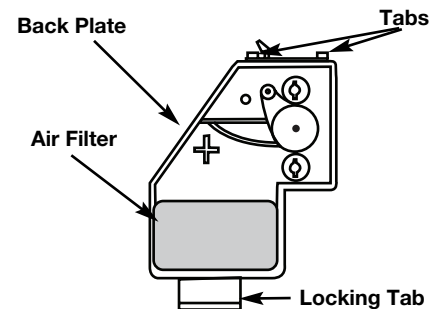

Fig. 48
7. Reinstall the air filter cover. Position the slots on the top of the air filter cover onto the tabs at the top of the back plate (Fig. 48).